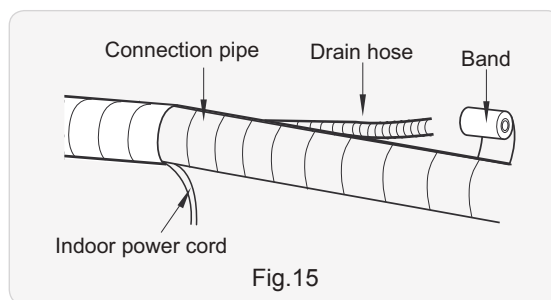

Fig.15
(2) Reserve a certain length of drain hose and power cord for installation when binding them. When binding to a certain degree, separate the indoor power and then separate the drain hose. (As show in Fig.15)
(3) Bind them evenly.
(4) The liquid pipe and gas pipe should be bound separately at the end.